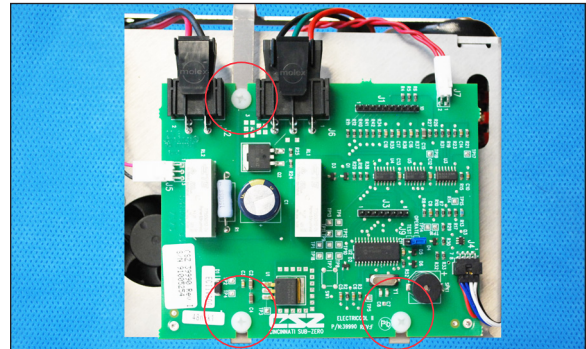

Figure 112 - Step 2 Reinstall three plastic screws
1. Reinstall the three #8 plastic washers onto the thermoelectric bracket assembly (Figure 112).
2. Place the new control board in place and install the three #8-32 x 1/4" plastic Phillips screws to hold the board in place (Figure 112).